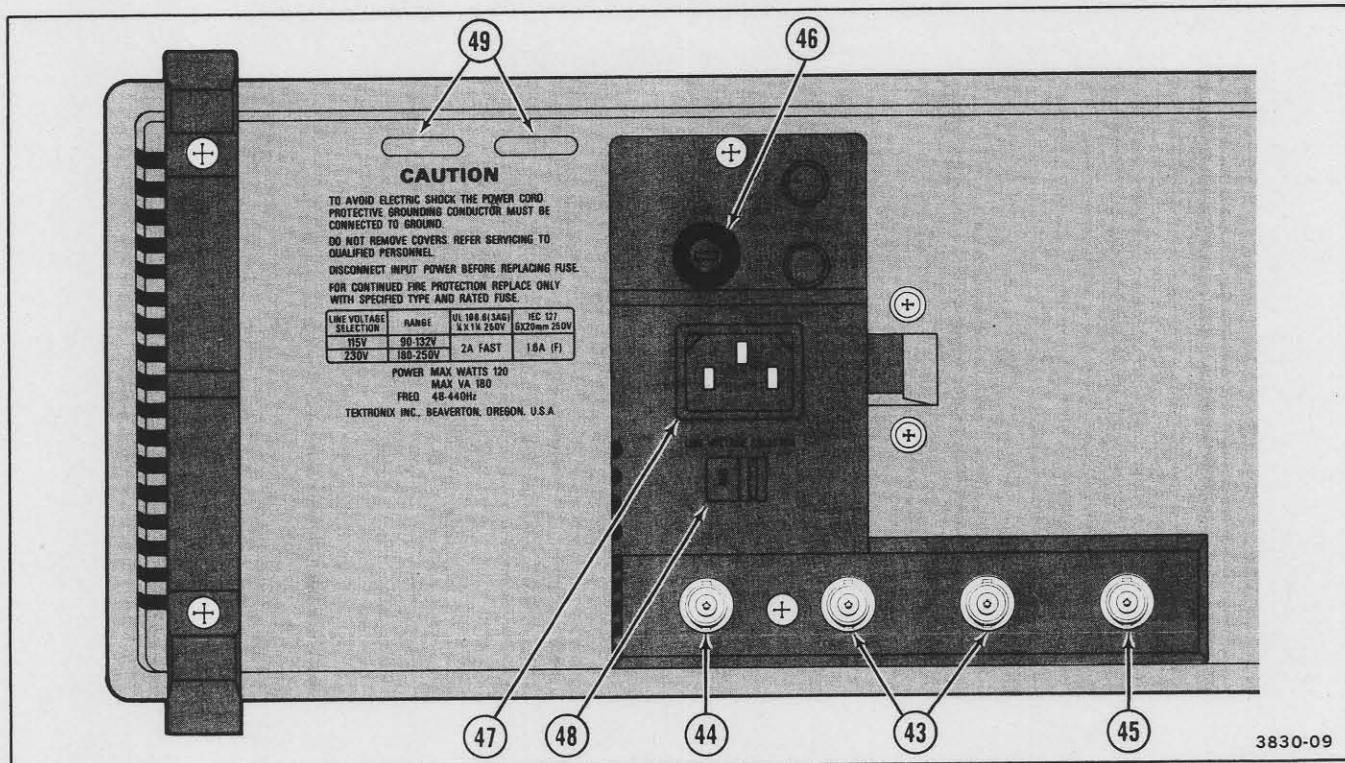

Figure 3-6. Rear-panel controls and connectors.
Refer to Figure 3-6 for location of items 43 through 49.
- (43) **A GATE OUT and B GATE OUT Connectors**—Provide TTL-compatible, positive-going gate signals that are HI during their respective sweeps and LO while the sweep is not running.
- (44) **CH 2 SIGNAL OUT Connector**—Provides an output signal that is a normalized representation of the Channel 2 input signal. The output amplitude into a 1-MΩ load is approximately 20 mV per division of input signal. Into a 50-Ω load, the output amplitude is approximately 10 mV per division of input signal.
- (45) **EXT Z-AXIS IN Connector**—Provides an input connection point to apply external Z-axis modulation signals to the Z-Axis Amplifier. Either the sweep or the X-Y display may be intensity modulated. Positive-going signals decrease the intensity. From dc to 2 MHz, an input-signal amplitude of +2 V will blank a maximum-intensity trace; from 2 MHz to 20 MHz, an input-signal amplitude of +2 V will produce noticeable modulation on a normal-intensity trace.
- (46) **Fuse Holder**—Contains the ac power-source fuse.
- (47) **Detachable Power Cord Receptacle**—Provides the connection point for the ac power source to the instrument.
- (48) **LINE VOLTAGE SELECTOR Switch**—Selects the nominal instrument operating voltage range. When set to 115V, the instrument operates from a power-source voltage having a range of 90 V to 132 V ac. Set to 230V, the instrument operates on an input-voltage range of 180 V to 250 V ac.
- (49) **Mod Slots**—Contain the identification numbers of any installed instrument modifications.